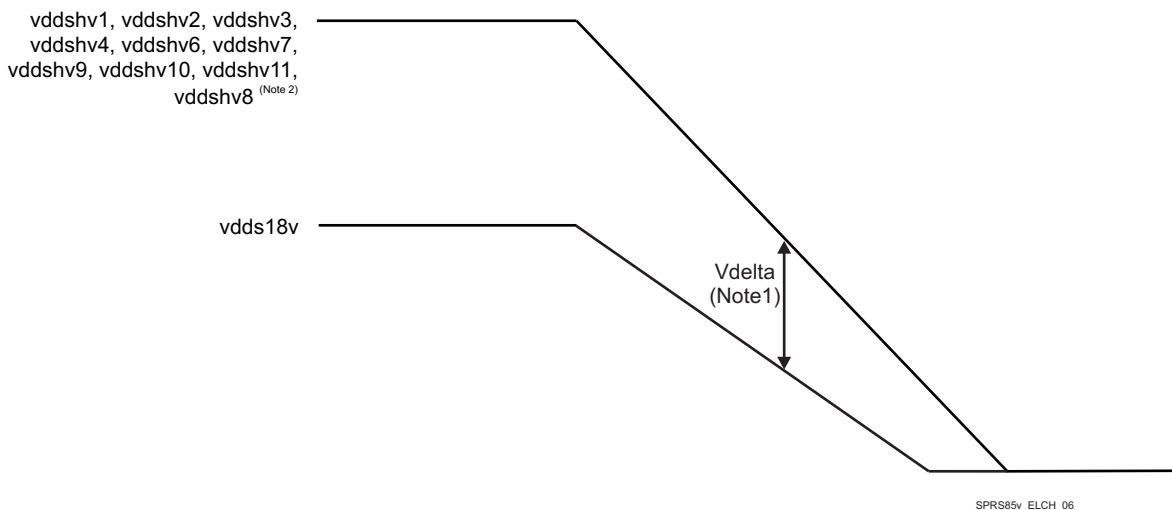
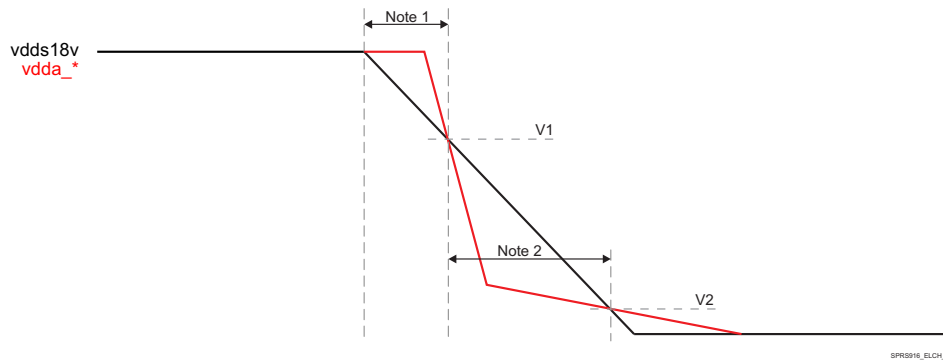
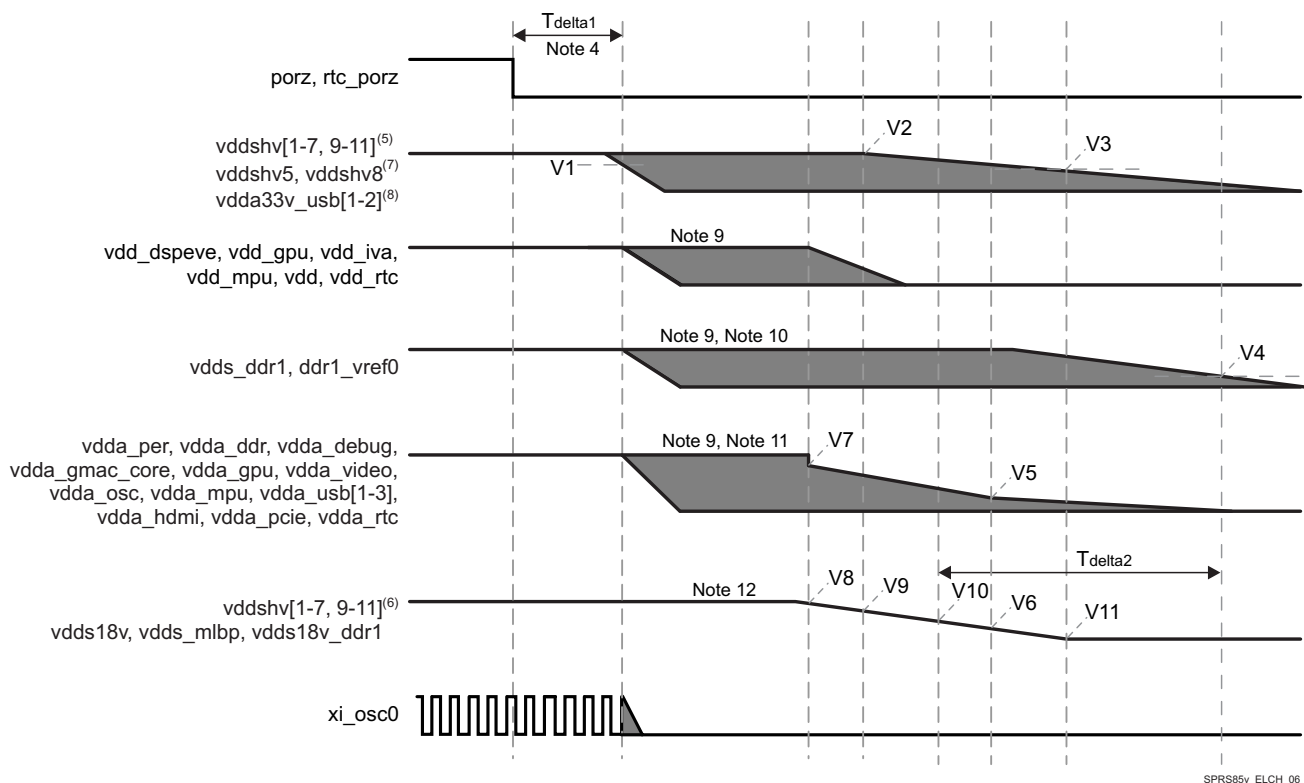

图 5-5. vdds18v versus vddshv[1-7, 9-11] Discharge Relationship
图 5-7. vdds18v and vdda\_\* Discharge Relationship(3)
图 5-8. Abrupt Power-Down Sequencing(1)
- (3) General timing diagram items:
- (4) porz signals must be asserted low for 100  $\mu$ s min to ensure SoC is set to a safe functional state before any voltage begins to ramp down.
- (5) vddshv\* domains supplied by 3.3 V:
- must not exceed vdds18v by more than 2 V during ramp down, see 图 5-7 “vdds18v and vdda\_\* Discharge Relationship”.
- (6) vddshv\* domains supplied by 1.8 V:
- (7) vddshv8 domain:
- (8) RTC domains (vddshv5, vdd\_rtc, and vdda\_rtc):
- (9) vdda\_\* domains:
- must satisfy the vdds18v and vdda\_\* Discharge Relationship (see 图 5-7) if vdda\_\* disable point is later or discharge rate is slower than vdds18v.
- (10) vdda33v\_usb\* domains:
- (11) vdd\_dspeve, vdd\_gpu, vdd\_iva, vdd\_mpu domains can ramp down before or concurrently with vdd.
- (12) vdd can ramp down concurrently or after with vdd\_dspeve, vdd\_gpu, vdd\_iva, vdd\_mpu domains.
- (13) vdds\_ddr\* domains:
- (14) vdds18v domain:
- must satisfy the vdds18v versus vddshv[1-7, 9-11] Discharge Relationship (see 图 5-5) if vddshv\* is operating at 3.3 V
图 5-5 describes vddshv[1-7,9-11] Supplies Falling Before vdds18v Supplies Delta.
图 5-5 through 图 5-8 and associated notes described the device abrupt power down sequence.
A "loss of input power event" occurs when the system's input power is unexpectedly removed. Normally, the recommended power-down sequence should be followed and can be accomplished within 1.5-2 ms of elapsed time. This is the typical range of elapsed time available following a loss of power event, see 节 8.3.7 for design recommendations. If sufficient elapse time is not provided, then an "abrupt" power down sequence can be supported without impacting POH reliability if all of the following conditions are met (图 5-8).